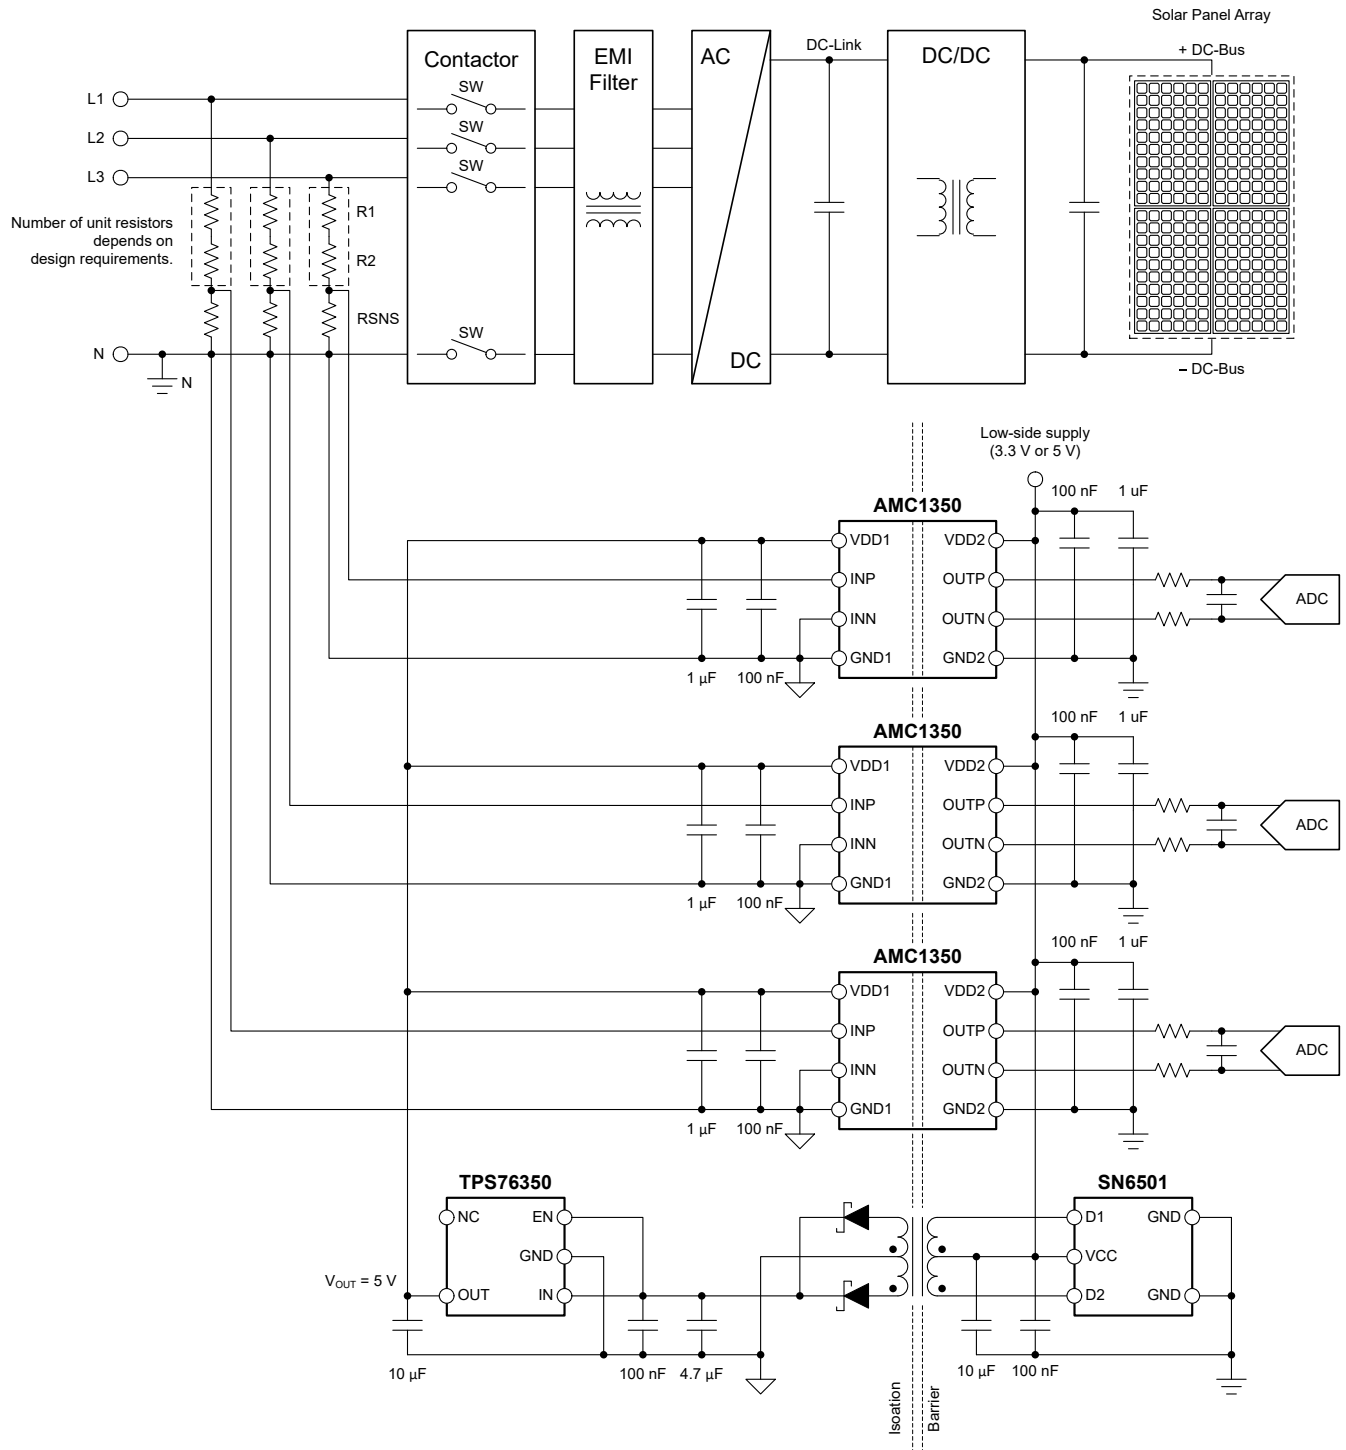

图 8-1. Using the AMC1350 for AC Line-Voltage Sensing in a Solar Inverter Application
**图 8-1** illustrates a simplified schematic of a solar inverter application that uses three AMC1350 devices to measure the AC line voltage on each phase of a three-phase system. The AC line voltage is divided down to an approximate ± 5 -V level across the bottom resistor (RSNS) of a high-impedance resistive divider that is sensed by the AMC1350. The output of the AMC1350 is a differential analog output voltage proportional to the input voltage but is galvanically isolated from the high-side by a reinforced isolation barrier. A common high-side power supply (VDD1) for all three AMC1350 devices is generated from the low-side supply (VDD2) of the system by an isolated DC/DC converter circuit. A low-cost solution is based on the push-pull driver SN6501 and a transformer that supports the desired isolation voltage ratings.
The 100-μA, cross-current requirement at peak input voltage (360 V) determines that the total impedance of the resistive divider is 3.6 MΩ. The impedance of the resistive divider is dominated by the top resistors (shown exemplary as R1 and R2 in 图 8-1) and the voltage drop across RSNS can be neglected for a short time. The maximum allowed voltage drop per unit resistor is specified as 75 V; therefore, the total minimum number of unit resistors in the top portion of the resistive divider is 360 V / 75 V = 5. The calculated unit value is 3.6 MΩ / 5 = 720 kΩ and the next closest value from the E96 series is 715 kΩ.